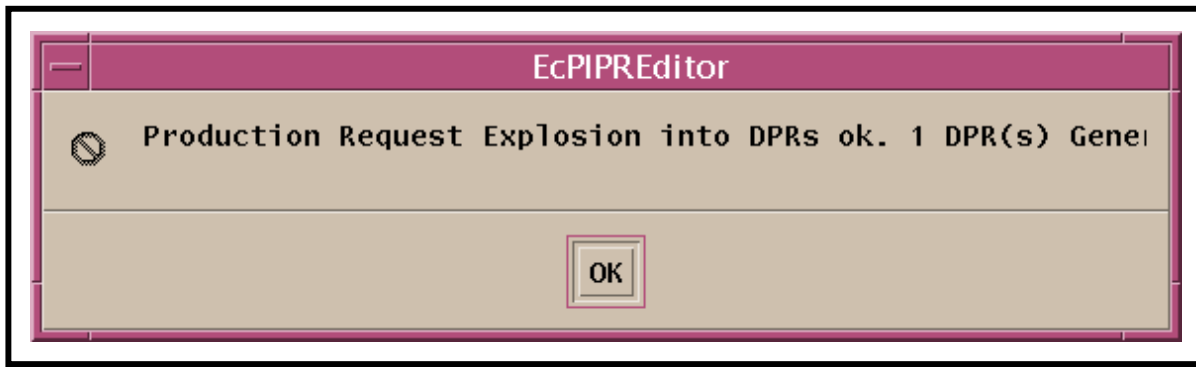

Figure 25. Production Request Explosion into DPRs Dialogue Box
- Eventually a **Production Request Explosion into DPRs** dialogue box (similar to Figure 25) is displayed.